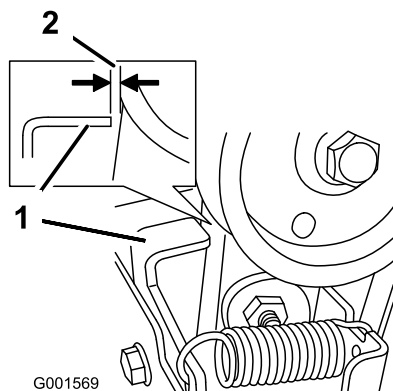

Figure 42
3. With the auger/impeller lever disengaged, ensure that the gap between the auger clutch assembly and the tab is 1.5 mm (1/16 inch) as shown in Figure 42.